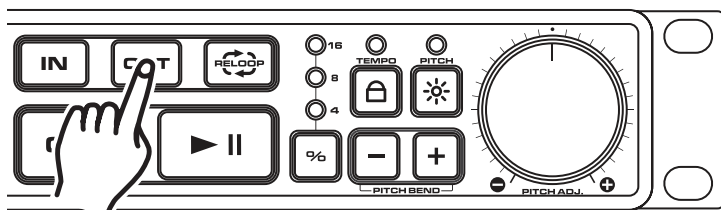

Figure 16
- 3) Press the *OUT BUTTON (8)* to set the ending point for your SEAMLESS LOOP (Figure 16). The *IN BUTTON* and *OUT BUTTON* LEDs will immediately begin to flash rapidly indicating the SEAMLESS LOOP mode has been activated.